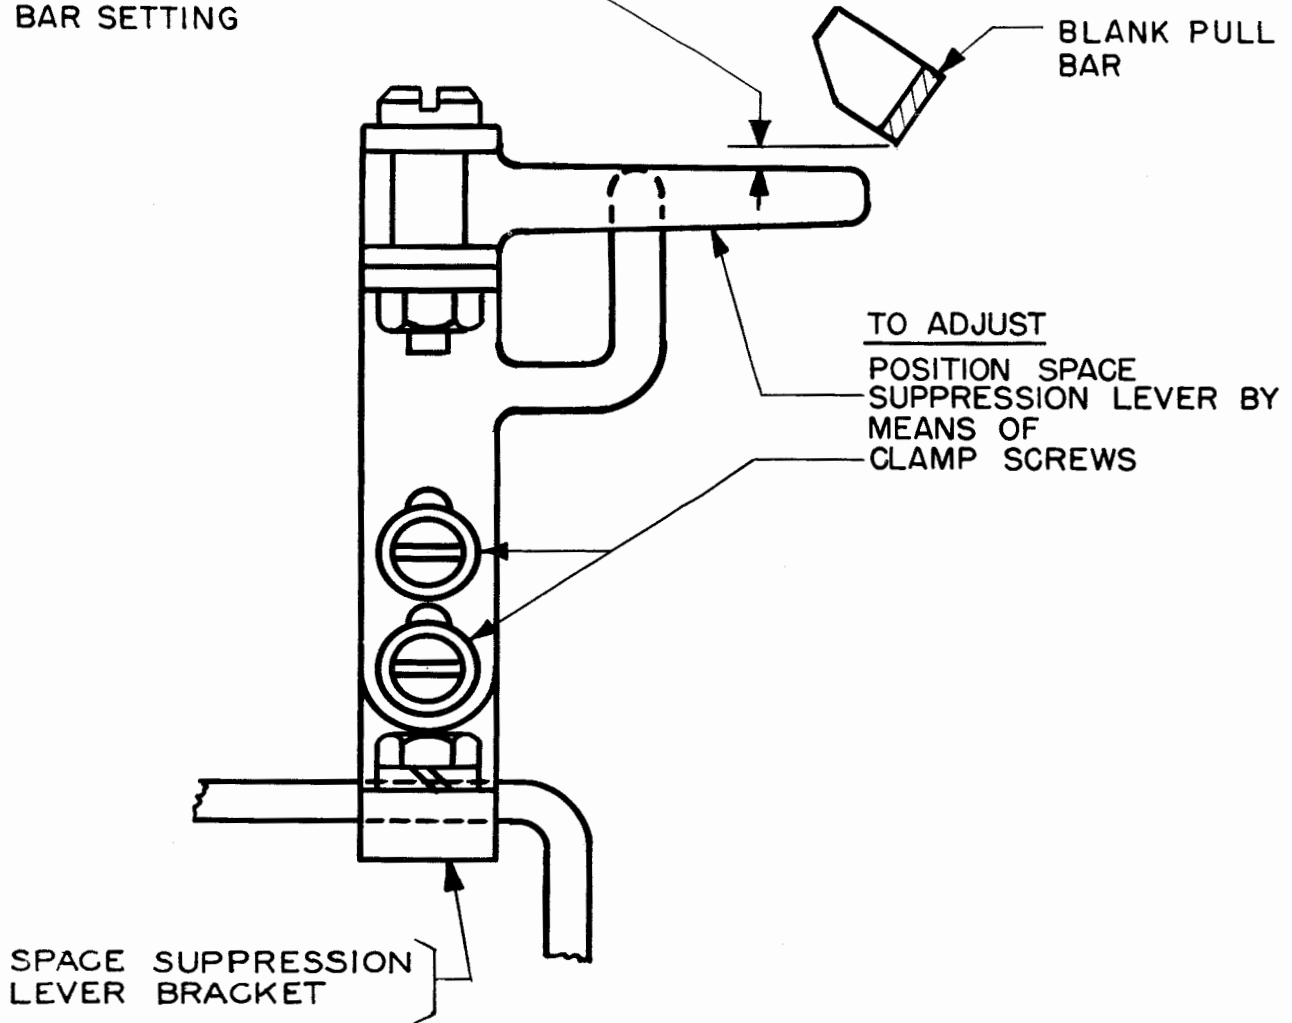

Figure 10
- 4.03 Space Suppression Lever Clearance (Rear Edge): (See Figure 10.)